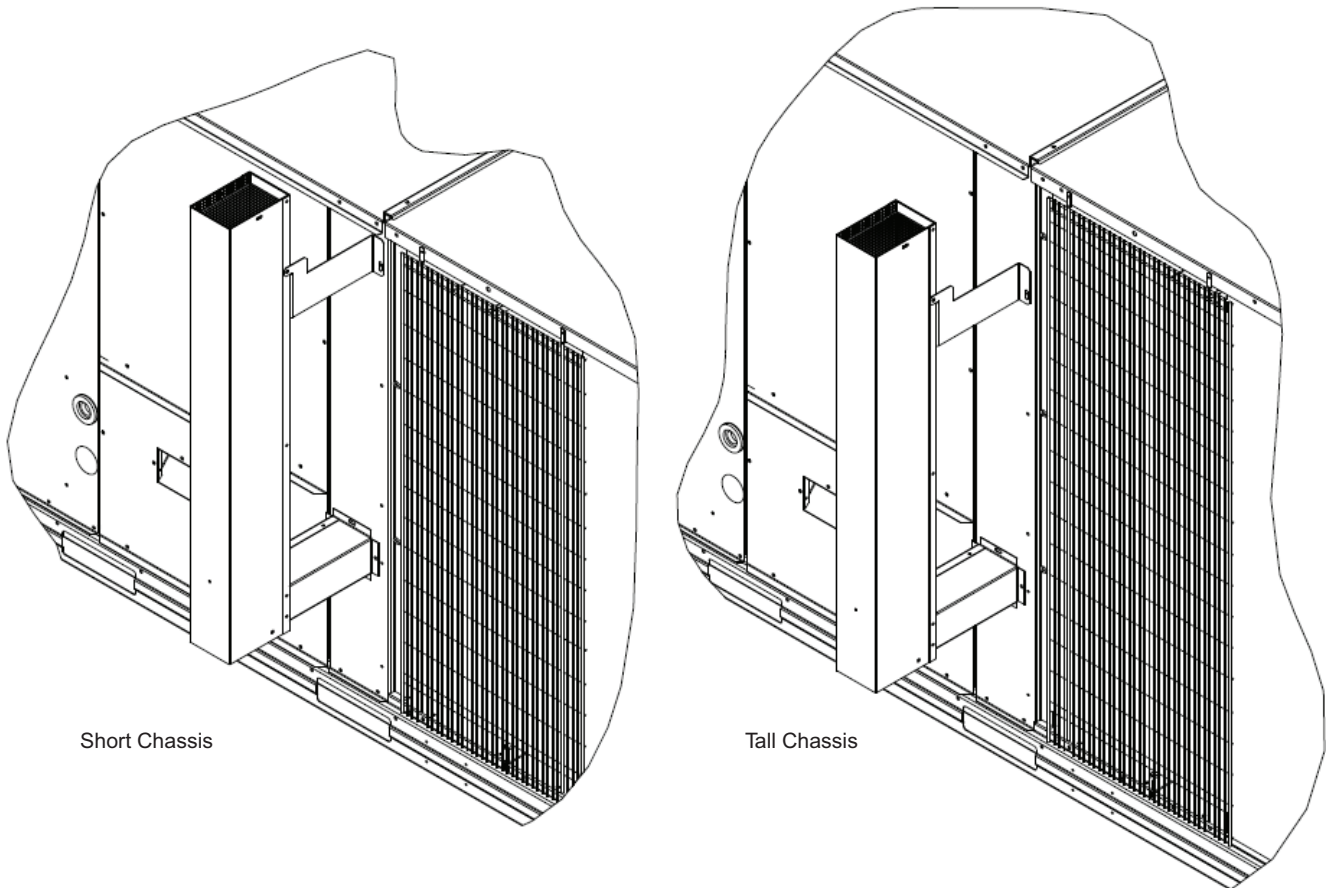

Fig. 3 — Flue Discharge Deflector Installed on Unit
5. Fasten deflector assembly inlet with screws removed in Step 3 to unit flue outlet. (See Fig. 3.)
6. Align upper bracket with empty screw hole in center post. Secure with screw removed in Step 4. (See Fig. 3.)